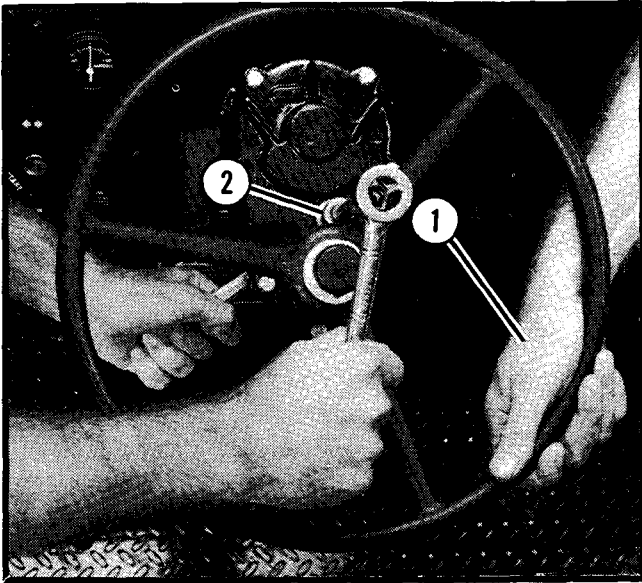

Figure 5.
3. Snug the lower and upper idler adjusting nuts simultaneously while holding slight pressure on the steering wheel in a counterclockwise direction. See Figure 5. Care **MUST** be exercised to avoid cocking the idler bolt.